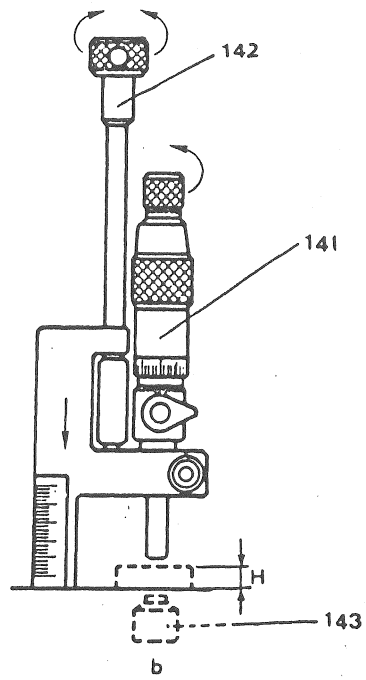

Fig 13
Micrometric stop (fig. 13 a)
- Adjustment of the machining depth (fig. 13 b)